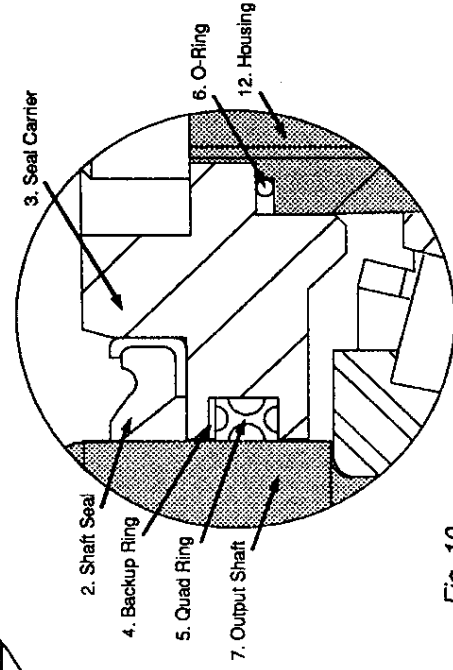

Fig. 10
26. Lubricate backup ring (4), quad ring (5) and 'O' ring (6). Insert backup ring and quad ring in groove of seal carrier. (Fig. 10) Place 'O' ring (6) on seal carrier pilot. (Fig. 8)
Press seal (2) into its counterbore in seal carrier (Fig. 10) The open face of the seal should be up. This seal functions as a wiper only and is installed to keep contaminants out of the unit.